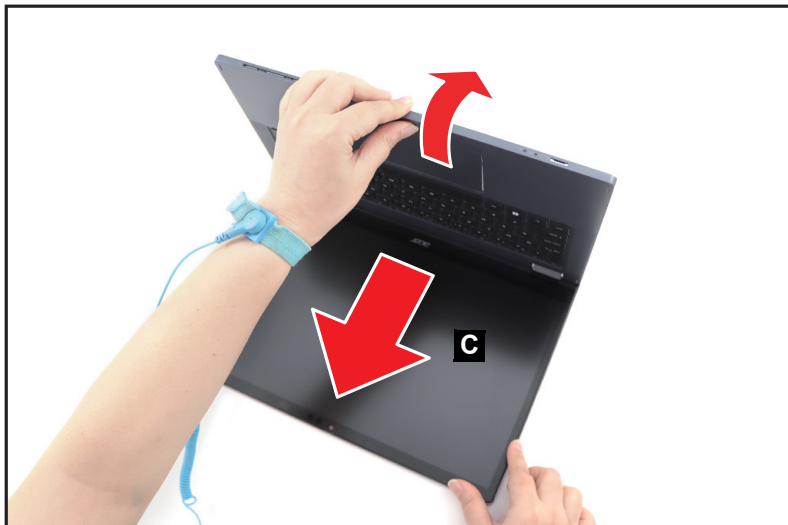

Figure 1-25. LCD Module Removal
6. Open the top assembly again. Then remove the LCD module (C) away from the top assembly (Figure 1-25).